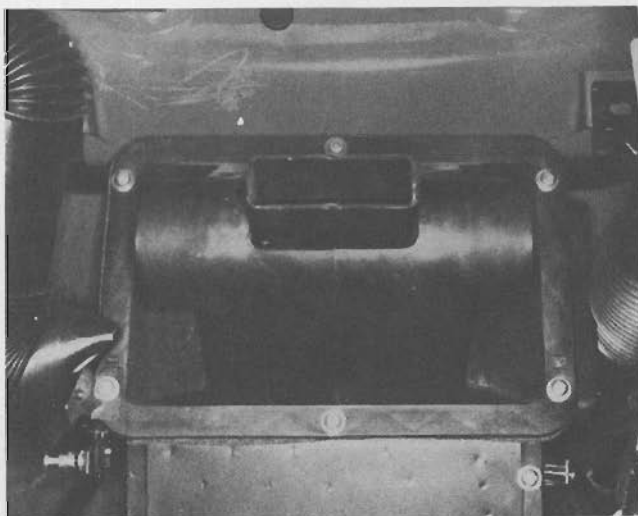

Figure III-9. Air Box Ventilator
- b. Remove the six attaching screws from the air box ventilator (see Figure III-9). Note that the lower LH screw also attaches the heater box vent control cable clamp.